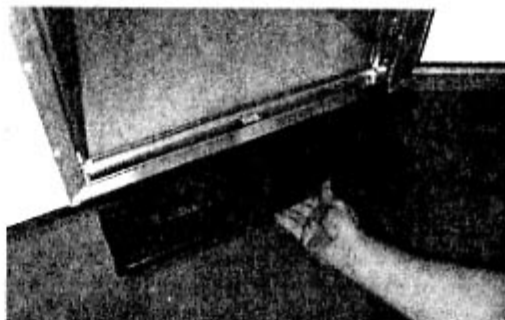

Fig. 21A & 21B. Step operation.
3. To stow the step for travel, lift the front end of step, push in, then lower front of step to engage retention notch. See Figs. 21A & 21B.